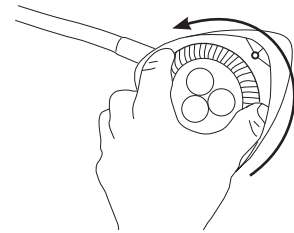

Figure 3. Remove Bulb
4. Unscrew LED bulb (figure 3).